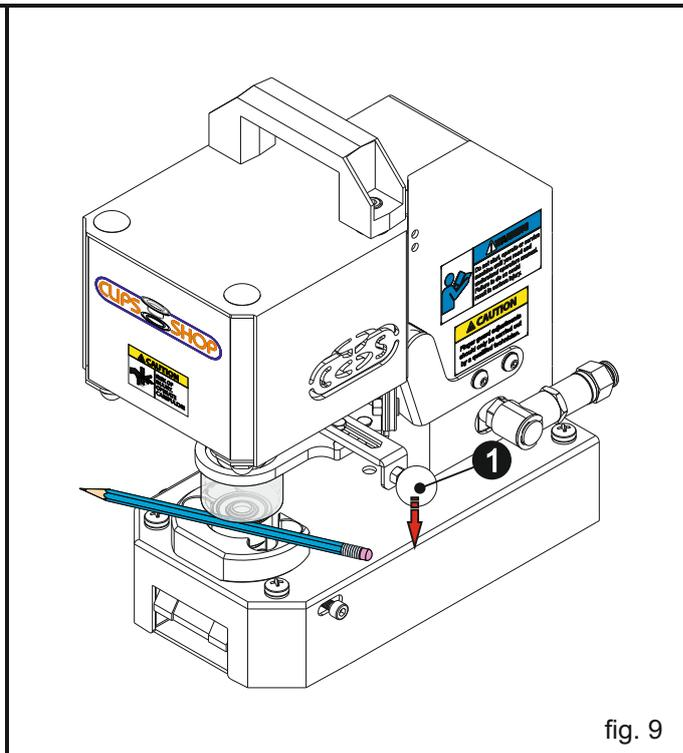

fig. 9
As shown in the (fig. 9), gently pull down the manual starter arm ①. If the machine does not work when the clear acrylic cover touches your test material, you can safely start using your machine. **IF NOT, YOU SHALL FOLLOW THE PROCEDURES DESCRIBED UNDER THE TITLE “CS-TIDY-51 Finger Guard Adjustment”**